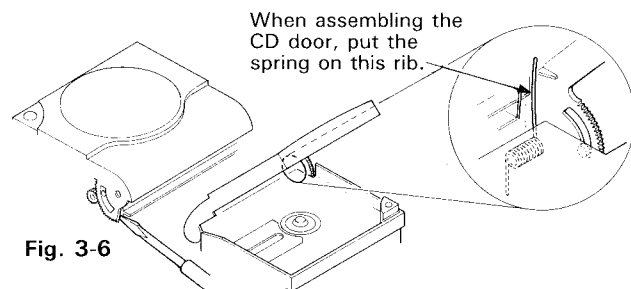

Fig. 3-6
- a) Remove the CD door from the shaft on the right of the door. (Use a flat-tipped screwdriver, etc., to remove the door arm from the shaft.) (Fig. 3-6)